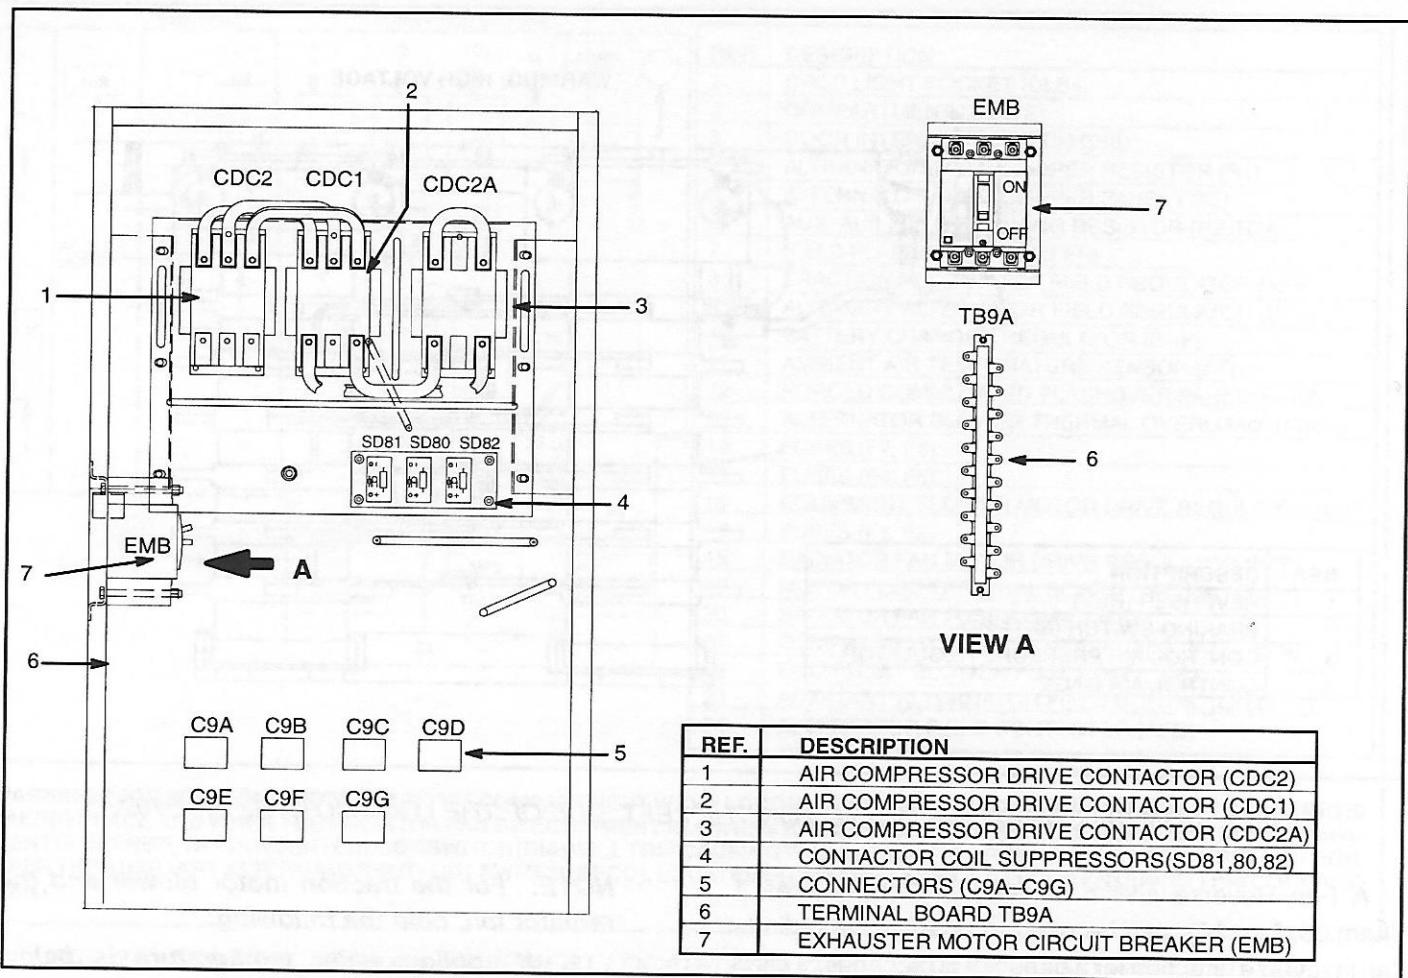

FIG. 24. CONTROL AREA 9 – LOCATED IN THE RADIATOR CAB ON THE RIGHT SIDE OF THE LOCOMOTIVE). E-42874.
Located in the radiator cab on the right (A) side of the locomotive (Fig. 24).